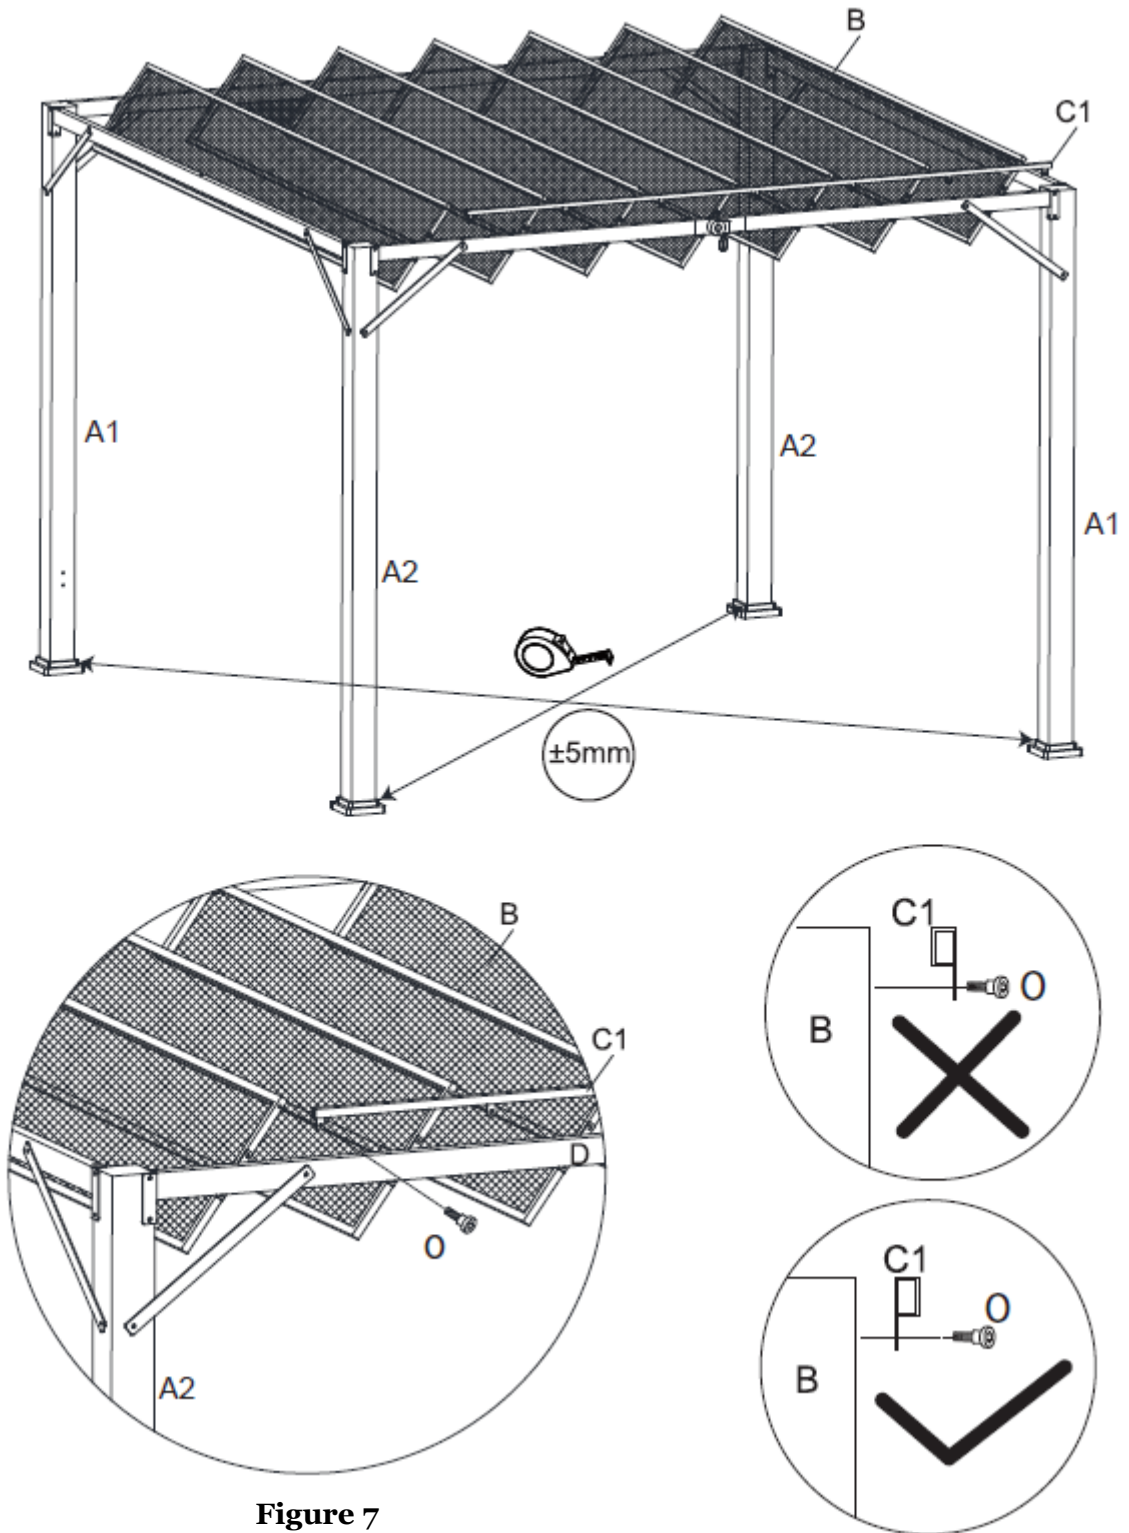

Figure 7
Step 7: Connect the Panel Connecting Rod (C1) to each Roof Panel (B) using Bolts (O). See Figure 7.